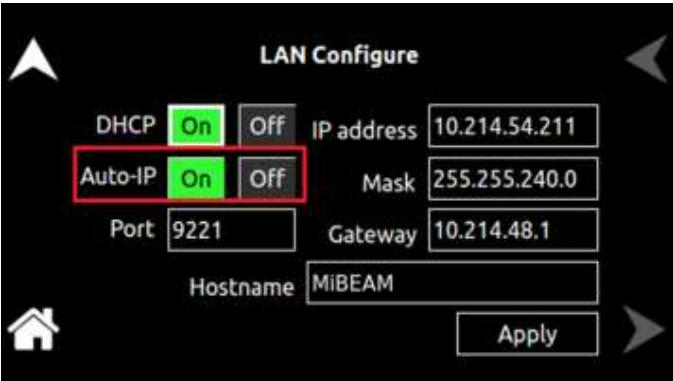

Figure 10-186. LAN Screen - Auto -IP
- Auto-IP:** Enables or disable the Auto-IP configuration, when DHCP is ON. Refer to Figure 10-186.